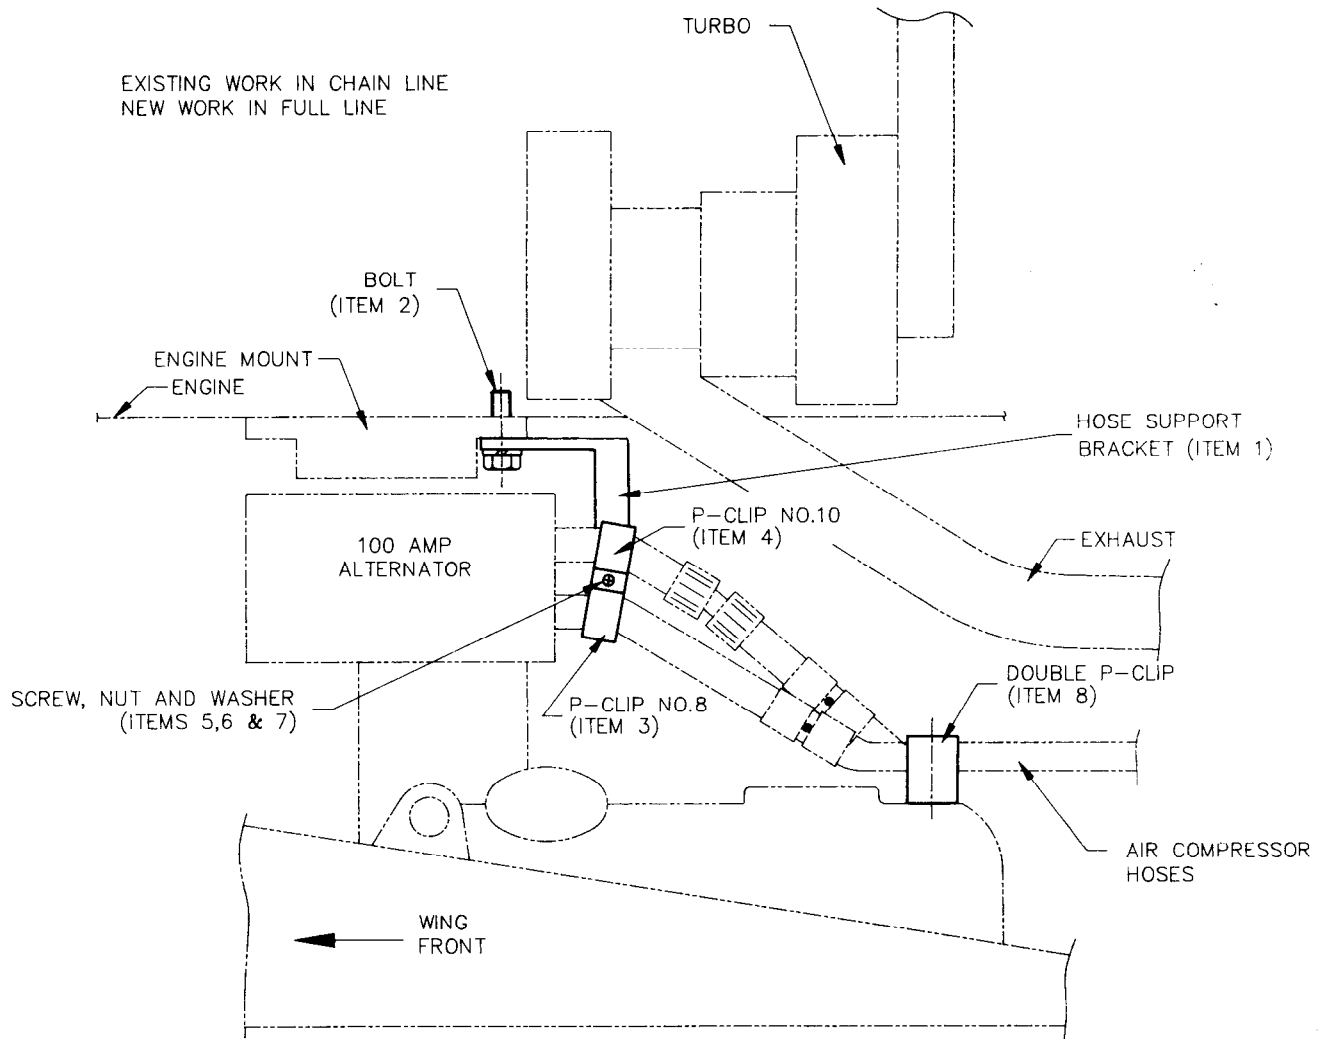

Figure 1 - Air Conditioner Hose Support Bracket
11. The modification is to be carried out as follows, with reference to Fig 1 for component location.
- Fit the support bracket (item 1) to the engine mount using new longer mounting bolts (item 2)(the aircon hoses should be resting on top of the bracket at this stage).
- Fit the "P" clips (item 3 and 4) to the hoses and attach the clips to the support bracket using screws, nuts and washers (item 5,6,7).
e. Fit the double "P" clip (item 8) around the aircon hoses adjacent to the exhaust pipe and fit to existing bolt.